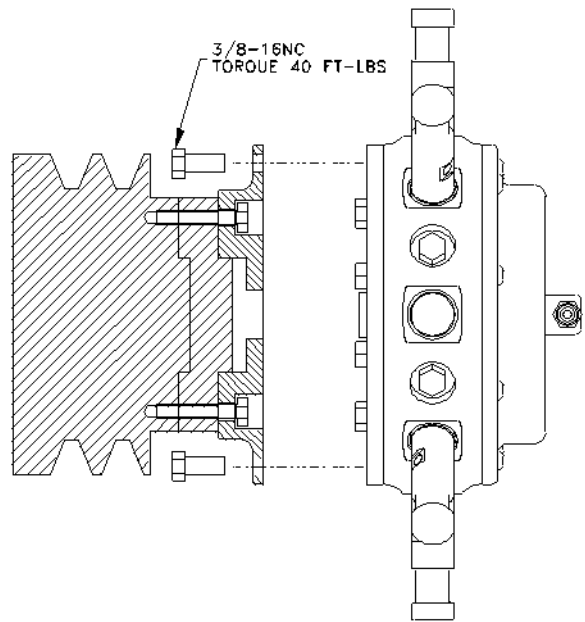

Figure 4
4. Remove the shipping plug from the rear of the fan. Place the Series 2000/Series 3000 fan onto the mounting adapter and torque the 3/8" bolts to 30 Ft-Lbs (41 N.m). Do not use loctite. Refer to **Figure 4**.